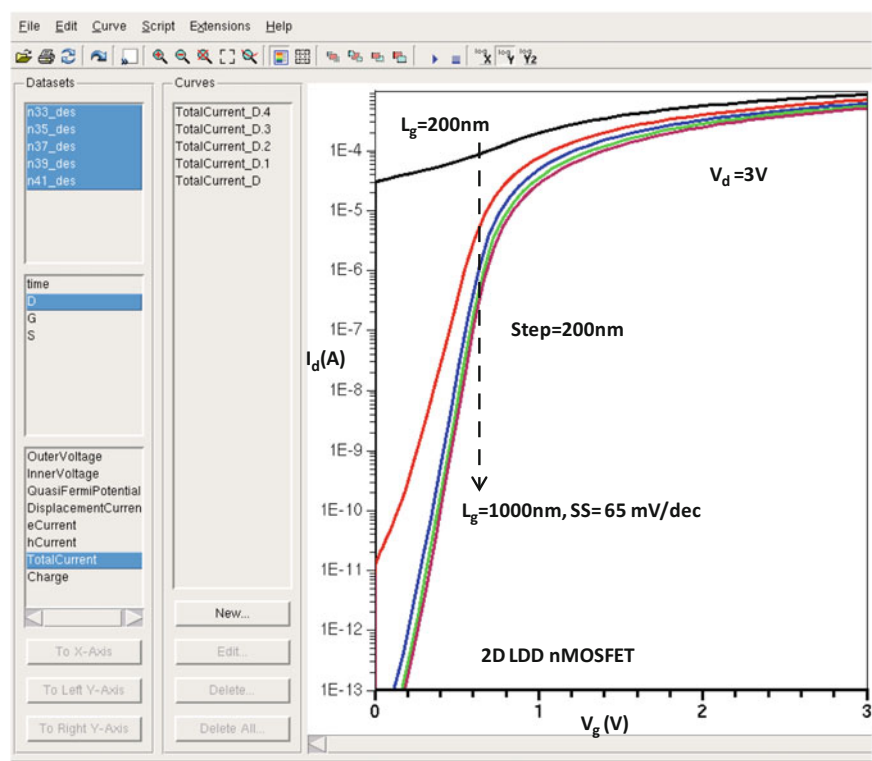

Fig. 2.33 Simulation of I_d - V_g curve of 2D n-type device with LDD
The electric property is as shown in Fig. 2.33, which shows that when LDD (lightly doped drain) is added into the original device, the leakage current (I_{off}) is reduced and the sub-threshold slope (SS) is significantly improved as compared to Fig. 2.23. Using LDD for reducing short-channel effect, the 2D n-type MOSFET still has good performance at $L_g = 400\text{ nm}$.